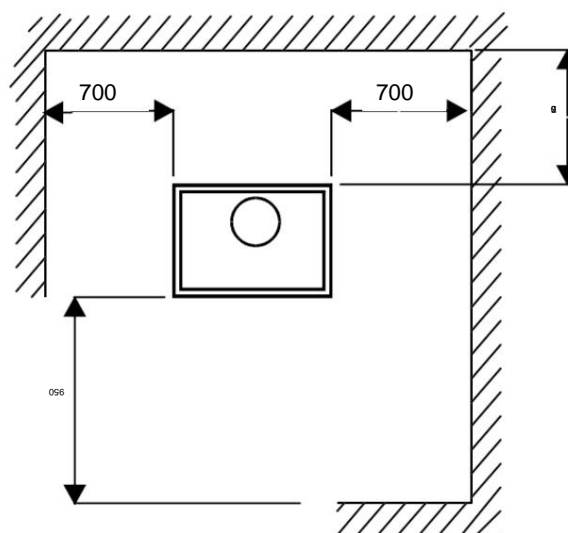

Fig. 3
- When installing the stove, observe the necessary safety distances for the oven and chimney from combustible surfaces (wooden or papered walls, wooden floors...). Safety distances must be respected when the lining on walls or nearby areas may be damaged or deformed by temperature (varnish, paint, PVC...). **Fig. 3.**